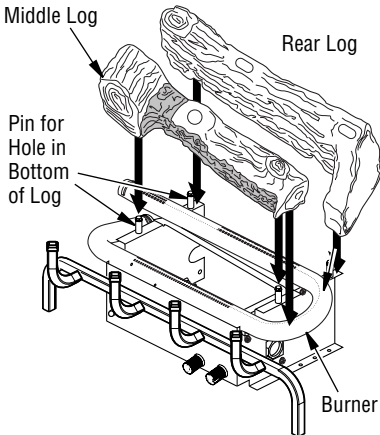

Figure 21 - Installing Rear and Middle Logs
1. Place rear log (#1) onto base. Holes in bottom of log must seat over pins on base as shown in **Figure 21**.
2. Place middle log (#2) onto base. Holes in bottom of log must seat over pins on base as shown in **Figure 21**.